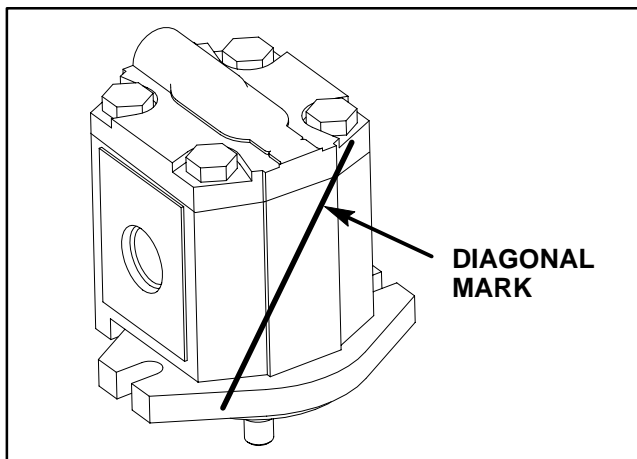

Figure 92
3. Use a marker to make a **diagonal** mark across the front flange, body and rear cover for assembly purposes (Fig. 92).